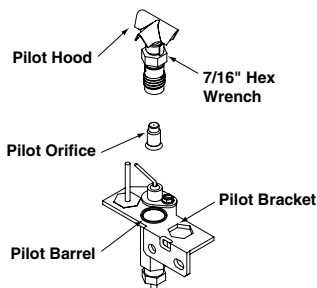

Figure 9 - Converting Pilot Orifice
1. Remove the pilot hood assembly from barrel using a 7/16" open end wrench (see **Figure 9**).